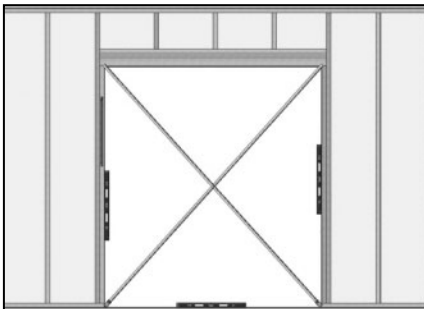

FIG. 4
- B) Verify the rough opening is plumb, level, and square. (Fig. 4)
- C) Take diagonal measurements to check for square. (Fig. 4)
- D) The post interlock seals the doors to the building and are supplied with the unit. They also require a continuous plane of building material for mounting. (Fig. 4)